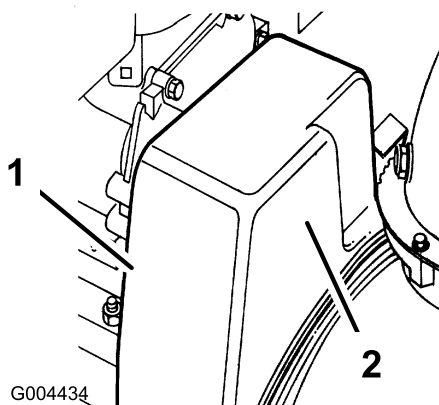

Figure 36
2. Remove the 2 flange-head bolts that hold the belt cover in place and set the cover aside (Figure 36).
1. Remove the 2 flange-head bolts that hold the belt cover in place and set the cover aside (Figure 36).